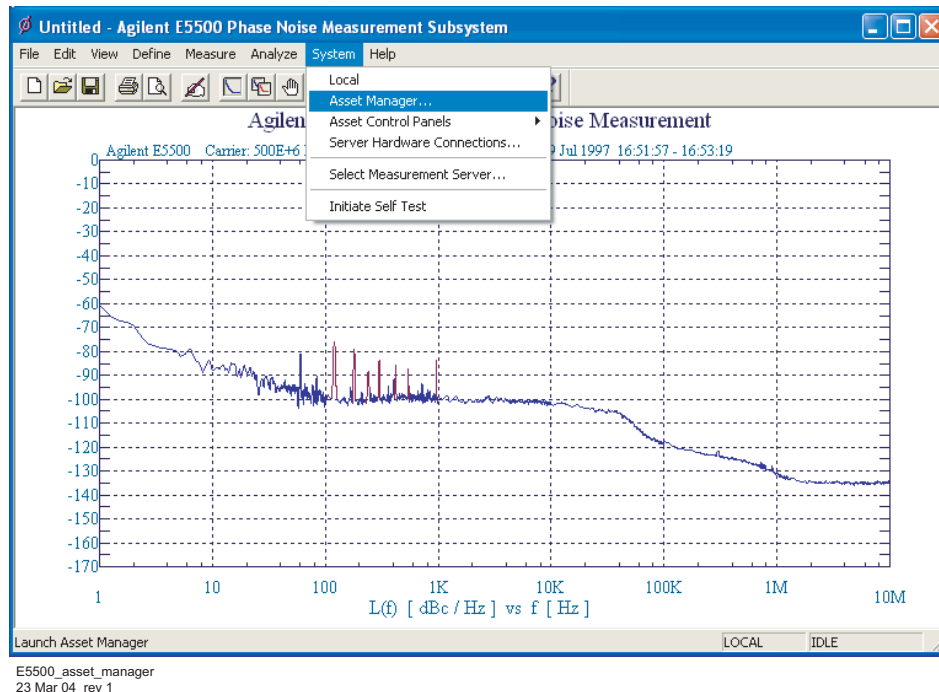

Figure 13 Navigate to Asset Manager
- 1 Using Figure 13 as a guide, navigate to *Asset Manager*. For this example we invoke the Asset Manager Wizard from the E5500 main screen. This is the most common way to add assets.